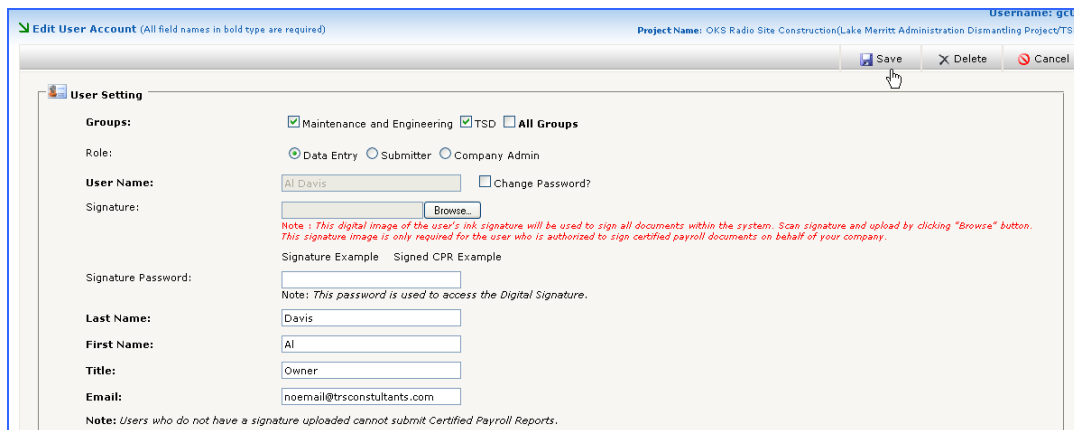
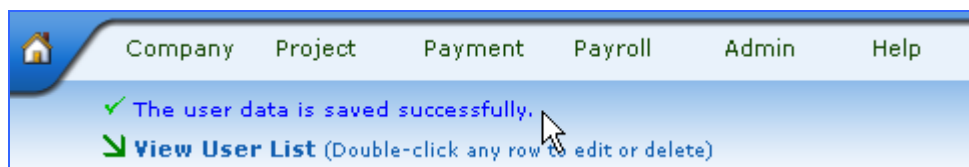

Figure 25 – Click on Save Screen
Figure 26 – Message "Data is Saved" Screen
2. From the list of Existing Users at the bottom of the screen, double click on the username. This will direct your browser to the User Setting Screen (Figure 25).
3. To edit user's information, make any necessary changes and click on "Save" (Figure 25). A message "The user data is saved successfully." In blue will appear in the "Manage User" screen (Figure 26).